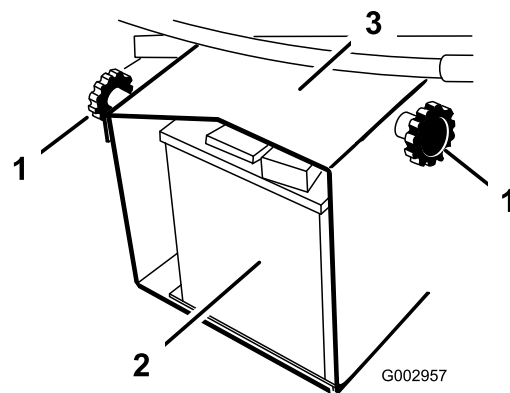

Figure 27
1. Loosen and remove the two hand knobs securing battery cover to battery base (Figure 27).